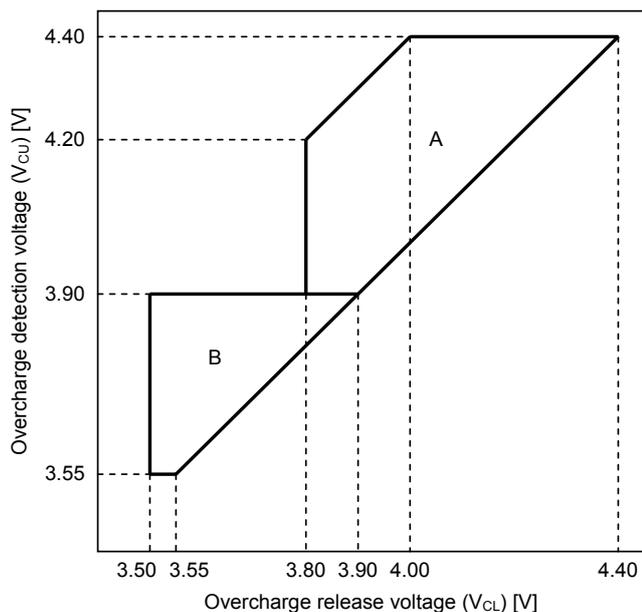
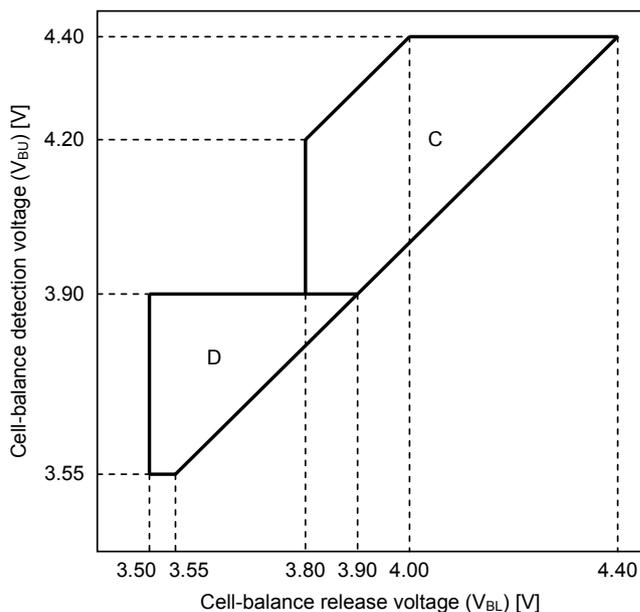

Figure 2
Figure 3
3. Please contact our sales office for the products with detection voltage value other than those specified above. Users are able to select the overcharge detection voltage, overcharge release voltage, cell-balance detection voltage and cell-balance release voltage from the range shown in **Figure 2** and **Figure 3**. Users are able to select how to combine the overcharge detection voltage (V_{CU}) and the overcharge release voltage (V_{CL}) from the range A or B shown in **Figure 2**^{*1}. Similarly, select how to combine the cell-balance detection voltage (V_{BU}) and the cell-balance release voltage (V_{BL}) from the range of C or D in **Figure 3**^{*2}. In selecting the combination of V_{CU} and V_{CL} from the range A, select the combination of V_{BU} and V_{BL} from the range C. Similarly, in selecting the combination of V_{CU} and V_{CL} from the B range, select the combination of V_{BU} and V_{BL} from the range D^{*3}.